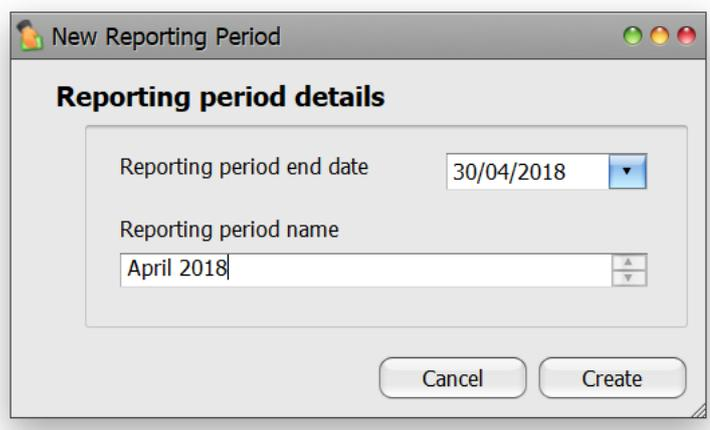

Figure 59 New report period dialog
3. In the next screen enter the reporting period end date – in this case 30/4/17. Click *Create* (Figure 59).